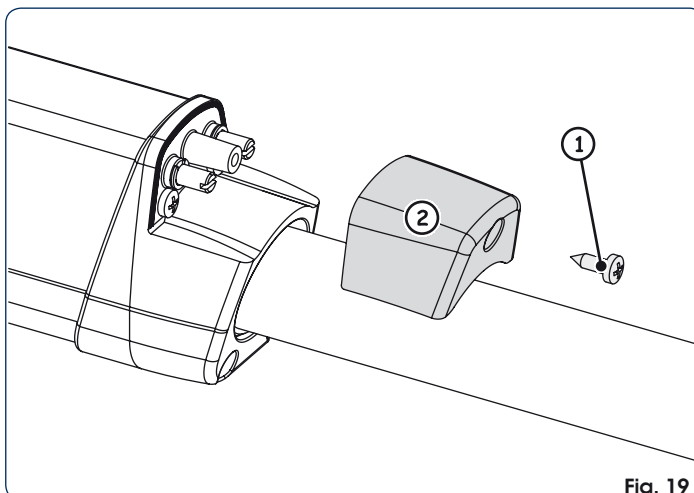

Fig. 19
1. Unscrew the upper fastening screw, Fig.19 ref.①, and remove the cap, Fig.19 ref.②.
5. Reposition the cap, Fig.19 ref.②, and tighten the fastening screw again, Fig.19 ref.①.